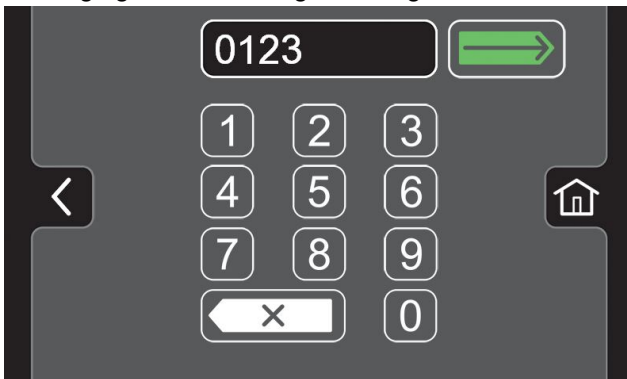

FIG. 172
- Assign a login code for the new user profile then press the green enter button (Figure 172). The new login code can be any combination of numbers ranging from 3 to 8 digits in length.